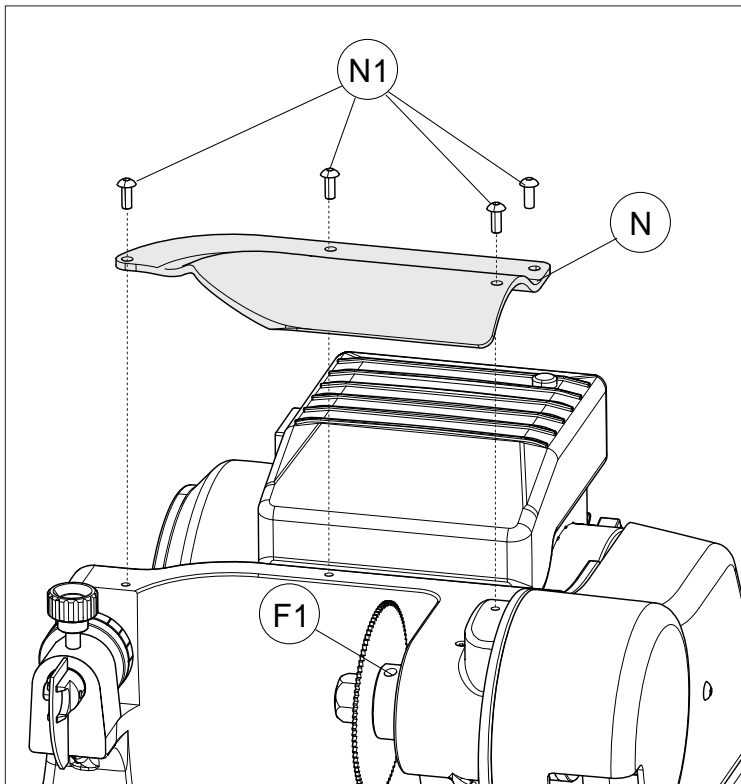
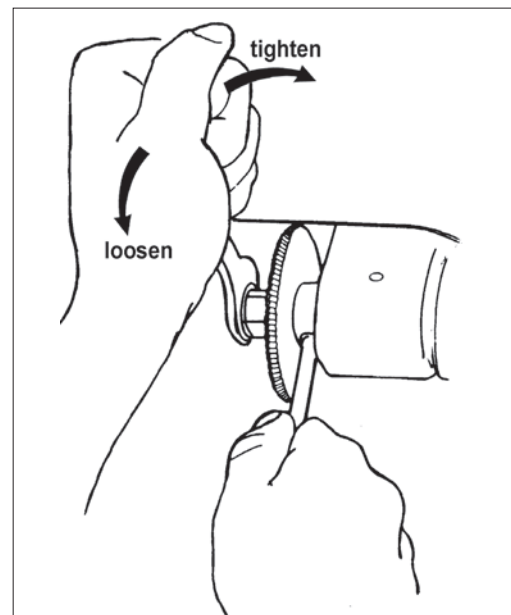

Fig. 51
Fig. 52
- 1) Remove the cutter locking screw (N1) and remove the cutter protective shield (N) (Fig. 51).
- 2) Slot the locking rod (provided) into the hole (F1) of the cutting tool shaft (Fig. 51 and Fig. 52).